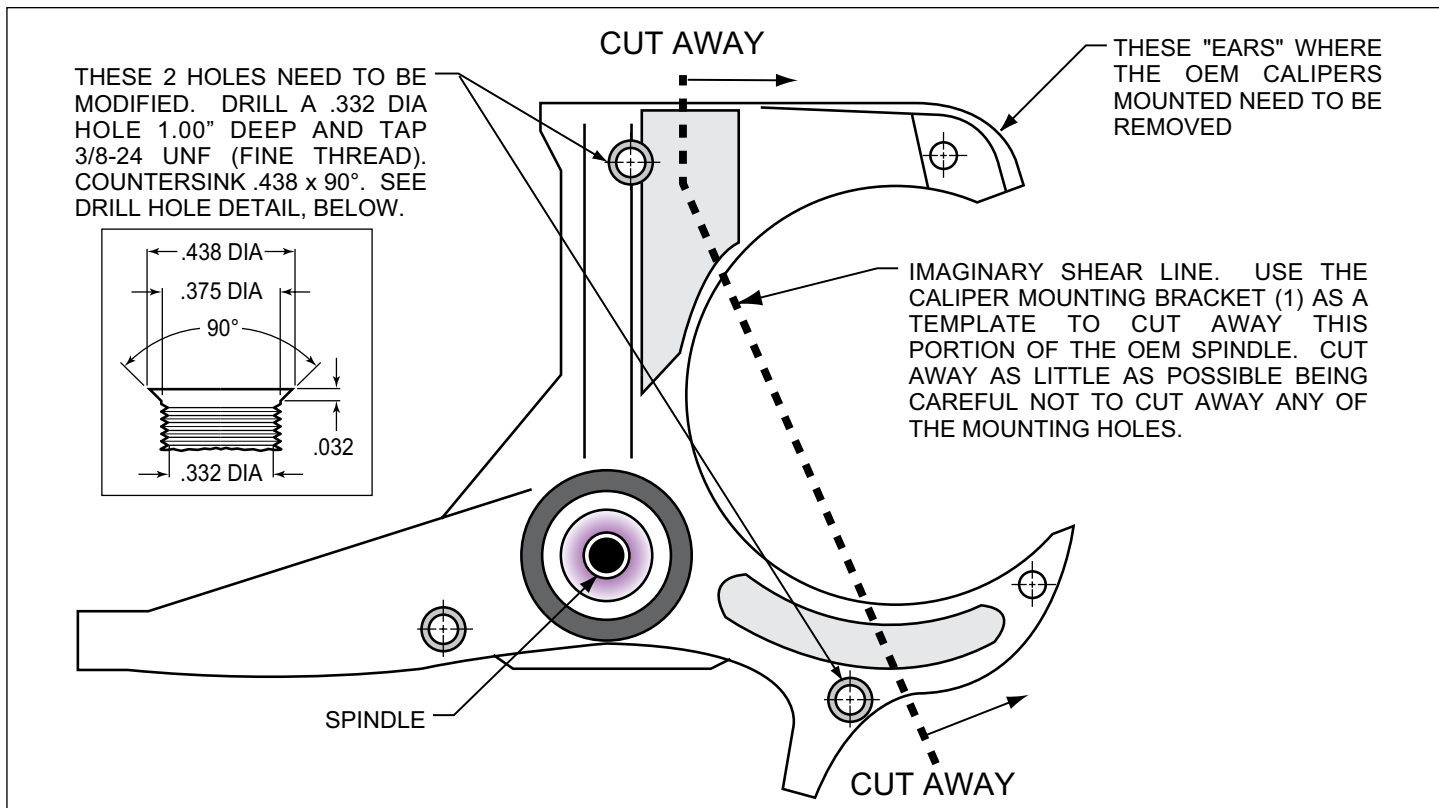

Figure 1. Steering Arm / Spindle Modifications
NOTE: These modifications should be performed by a qualified machinist and completed before assembly of the Wilwood disc brake kit begins. Refer to Figure 1 as necessary (numbers in parenthesis refer to the parts list). Only one view of the steering arm/spindle is shown, but the modifications need to be performed on both steering arm/spindles.
The two OEM holes that will be used to mount the caliper mounting bracket (1) need to be modified. Drill a .332 diameter hole through both holes, Figure 1, then tap 3/8-24 UNF (fine thread). Countersink the holes to .438 x 90°. The “ears” that protrude to form a “C” shape need to be removed to facilitate the installation of the Wilwood kit. Using the bracket as a template, mark two cut marks on the steering arm. Remove as little as necessary from the “C” shape, being careful not to cut away any of the mounting holes required to bolt on the bracket.